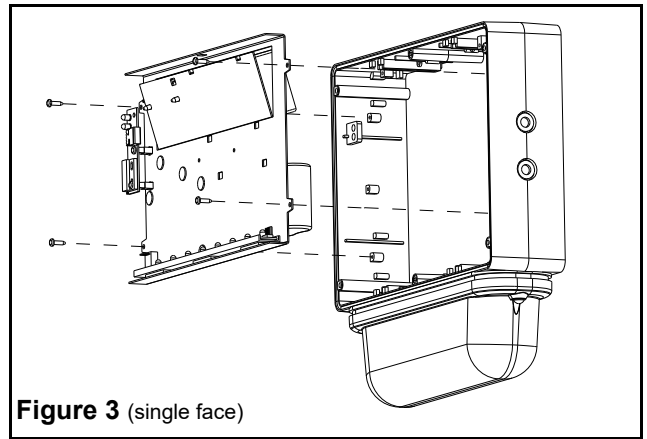
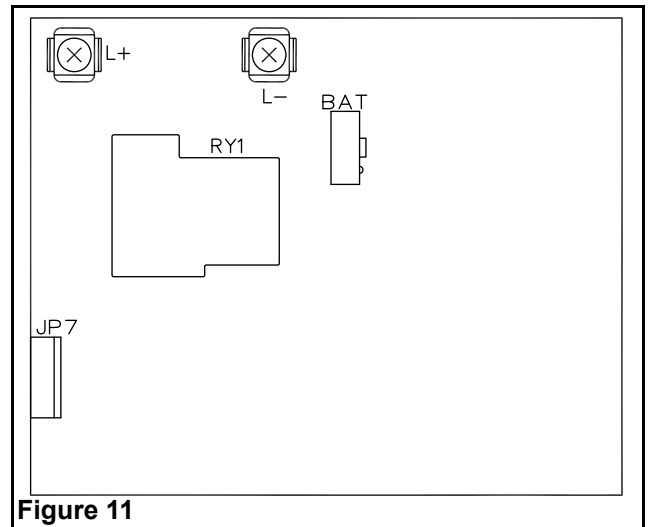

Figure 3 (single face)
Figure 11
- g. In order to access the knockouts of the frame, remove the 4 electronic module screws holding the module to the frame (see fig. 3 & 4), disconnect the lamps from charger board terminal “L+ & L-” (see on fig. 11) and remove the electronic module.
- c. Remove the 4 electronic module screw(s) holding the electronic module to the frame (see fig. 3 & 4), disconnect the lamps from terminal block and remove the electronic module.